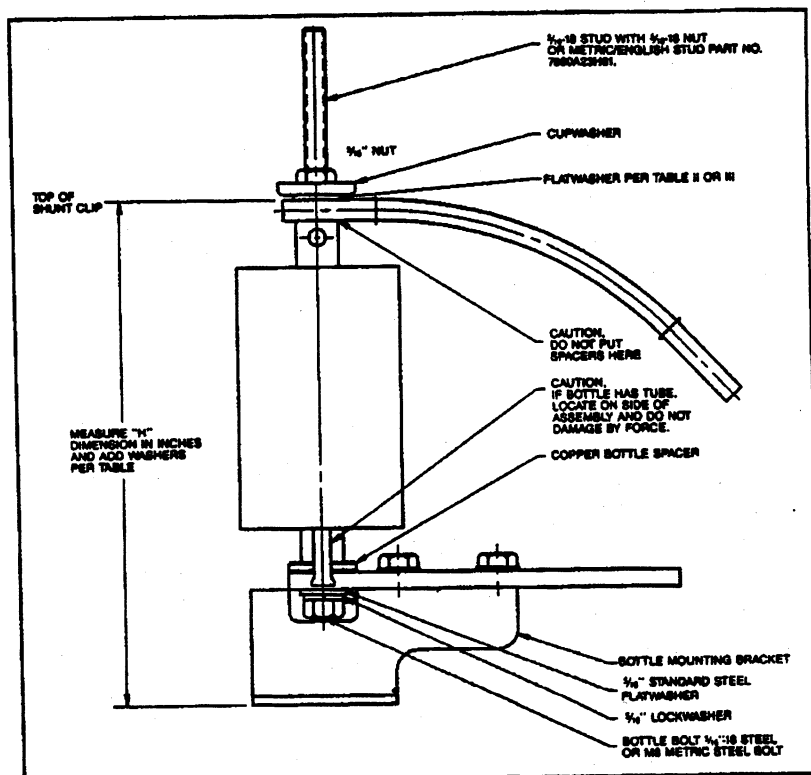

Fig. 5 Bottle Installation
2. Remove the bottle bolt at the bottom of each bottle. (See Figure 5.) Save the hardware, particularly the copper bottle spacer. Retain the bottle mounting bracket and discard old bottles.
4. Install shunt on top of each bottle as shown in Figure 5 without tightening the  $\frac{1}{8}$ " nut or stud.
5. Measure the dimension "H" as shown in Figure 5.